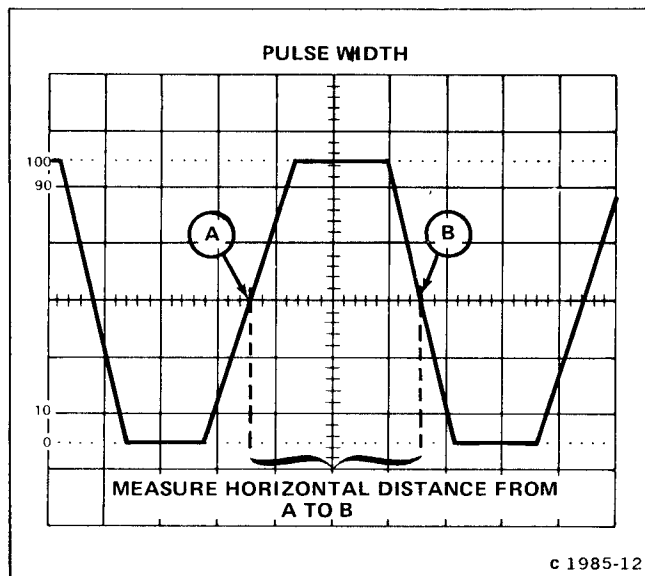

Fig. 2-7. Measuring the pulse width of a displayed waveform.
6. Set the TIME/DIV switch and POSITION control for 1 complete pulse displayed within the center 8 graticule divisions as shown in Figure 2-7.
7. Measure the horizontal distance in divisions between the 50% amplitude points of the displayed pulse (see Fig. 2-7.).
Example: Assume that the horizontal distance between the B amplitude points is 3 divisions, and the TIME/DIV switch setting is .1 ms (see Fig. 2-7).